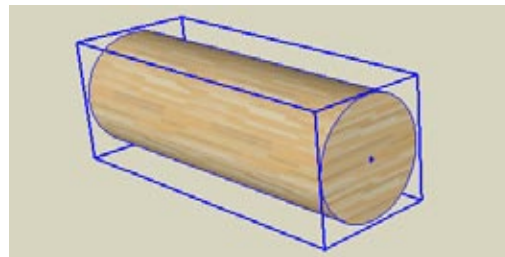

Figure 3-61
2. Pull the circle into a cylinder and make the whole thing into a component. Then paint it (Figure 3-61).